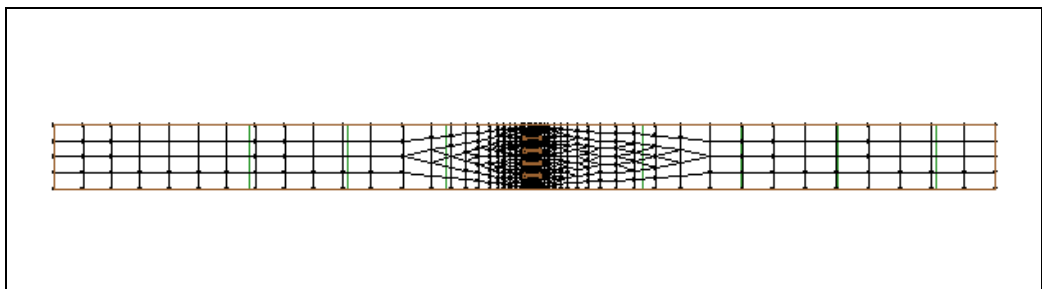

Figure 13-1 The mesh contained in the file *proto.geo*.
2. Find and highlight the file *proto.sup*. If you still have geometry data open from a previous tutorial, you will be warned that all existing mesh data will be deleted. If this happens, click *OK* to the prompt. The geometry data will open as shown in Figure 13-1.